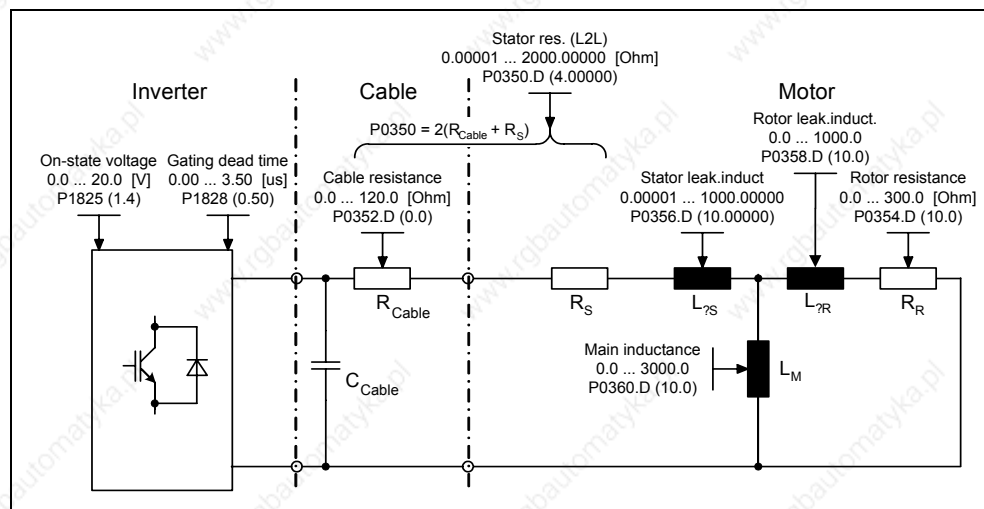

Fig. 3-26 Equivalent circuit diagram (ECD)
The calculation of the internal motor / control data is initiated using parameter P0340 or indirectly using parameter P3900 (refer to Section 3.5.3) or P1910 (refer to Section 0). The functionality of parameter P0340 can, for example, be used if the equivalent circuit diagram data (refer to Fig. 3-26) or the moment of inertia is known. Possible settings for parameter P0340 are described in Table 3-9. Table 3-10 lists which parameters are calculated for the different settings.
- Equivalent circuit data (ECD, refer to Fig. 3-26) → P1910 = 1
If the motor data identification routine is being started for the first time, then the following data (refer to Fig. 3-26) is determined, starting from the rating plate data (rated [nominal] data) with P1910 = 1:
In addition to the equivalent circuit data, the motor magnetizing characteristic (refer to Fig. 3-26) can be determined using the motor data identification (P1910 = 3). If the motor-drive inverter combination is operated in the field-weakening range, then this characteristic should be determined, especially when Vector control is being used. As a result of this magnetizing characteristic, MICROMASTER can, in the field-weakening range, more precisely calculate the current which is generating the field and in turn achieve a higher torque accuracy.